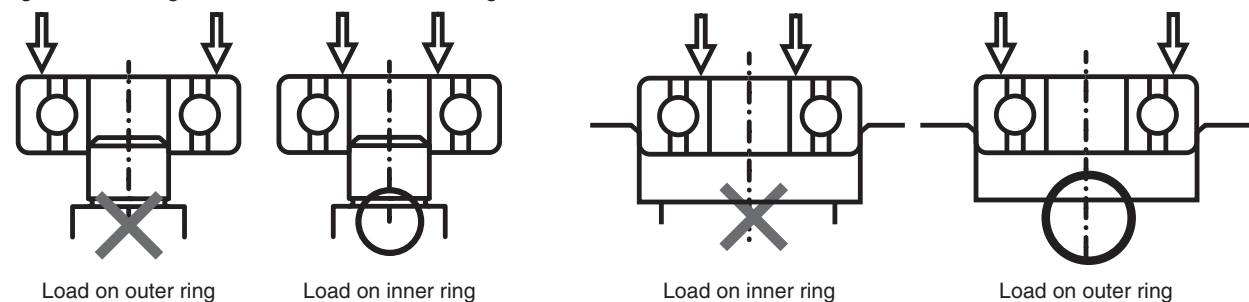

Figure 19-2 Load position in press-fitting
- Press the inner ring when press-fitting the shaft (Figure 19-2)
- Press the outer ring when press-fitting into the housing (Figure 19-2)